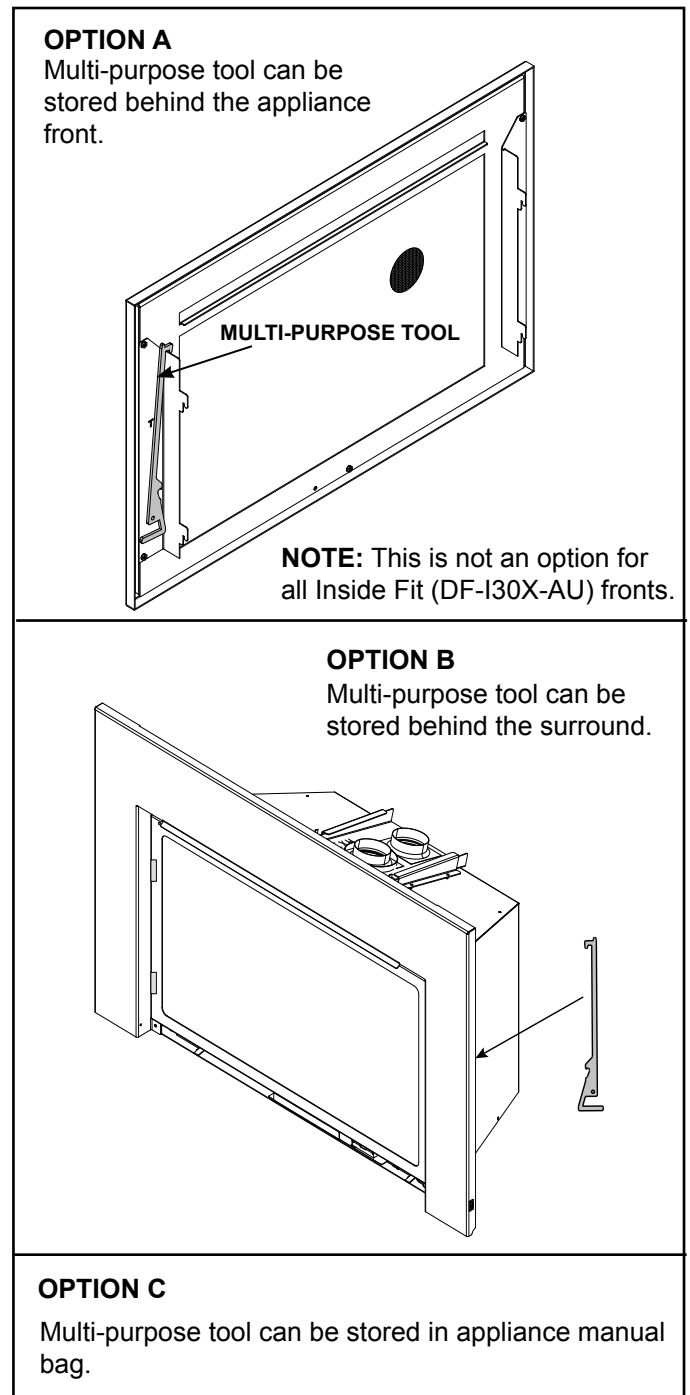

Figure 2.3 Multi-Purpose Tool Storage Options
- See Figure 2.3 for multi-purpose tool storage location options.
- See Figure 2.3 for multi-purpose tool storage.